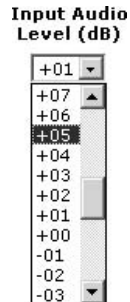

Figure 6-15 — Gain drop box
3. Click the Input Audio Level (dB) drop box. A drop-down scroll box appears (figure 6-15).
NOTE Individual controls, offering finer trim adjustments (in 0.1 dB increments) for the right and left channels and group master offsets are present in the DSP (see "DSP Configurator Program", in chapter 5, "Switcher Software"). These controls are not shown in the gain display shown in figure 6-15.